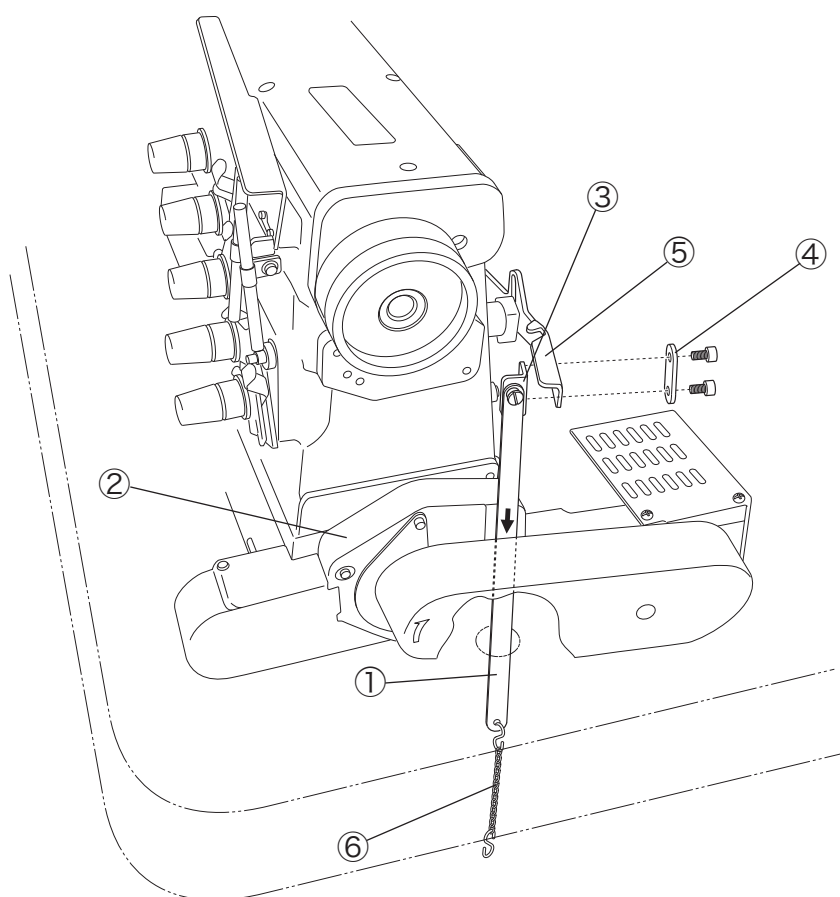

Fig. 3-13
- (1) The sewing machine install onto the sewing table.
- (2) Insert the lifter connecting link ① into the groove of the motor bracket ② .
- (3) Install the lifter connecting link holder ③ and the lifter connecting auxiliary plate ④ to the lifter lever ⑤ referring to the Fig. 3-13.
- (4) Hook the chain ⑥ in the hole of the lifter connecting link ① which is stuck out the bottom of the sewing table.